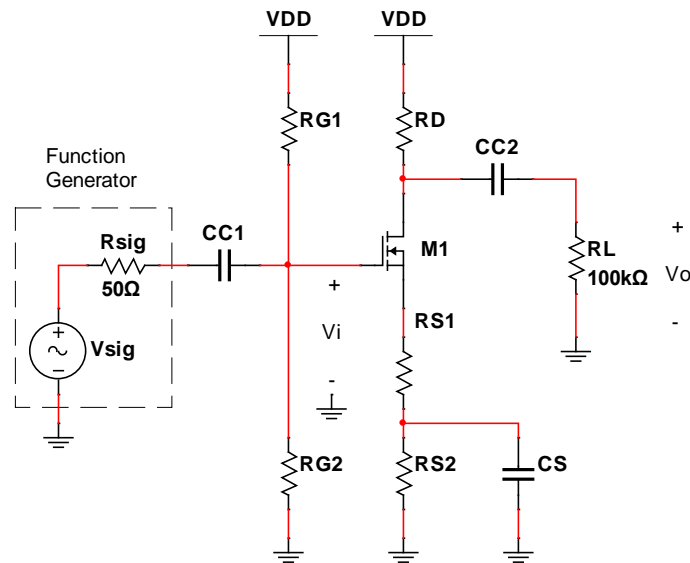

Figure 1. Common-source amplifier with source resistor using NMOS FET biased with the classical 4-resistor scheme.
- Circuit Topology: Common-source with source resistor (See Figure 1 for topology)